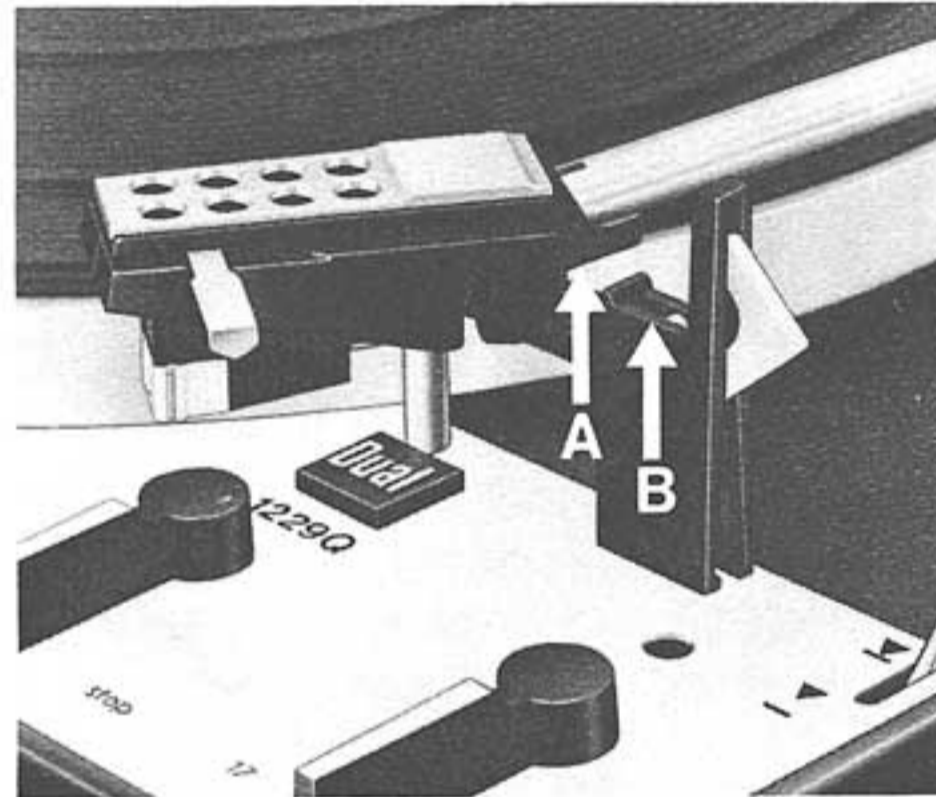

Fig. 15
4. Now find the exact balance by turning the counterweight. The tonearm is exactly balanced when edge "A" of the tonearm head profile is at precisely the same height as edge "B" of the tonearm rest (Fig. 15), or when the tonearm, flicked vertically, returns automatically to a horizontal position. When balancing the tonearm, the automatic mechanism must be disengaged. To be sure of this, place the cue control in position and, turn platter by hand clockwise a few rotations.